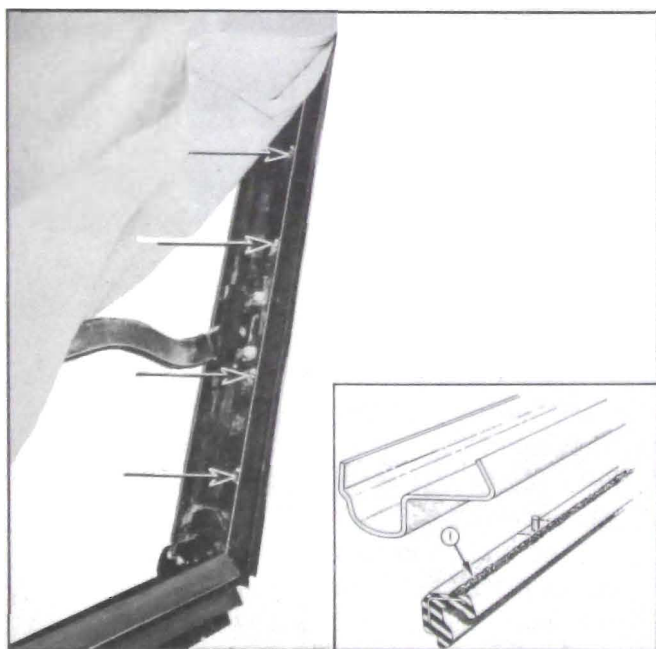

Figure 13-94—Side Roof Rail Weatherstrip
3. Apply a ribbon of body caulking compound along entire length of attaching surface on each side roof rail weatherstrip section just outboard of the integral studs and reverse removal procedure. (See figure 13-94.) Clean off excess cement and sealer.